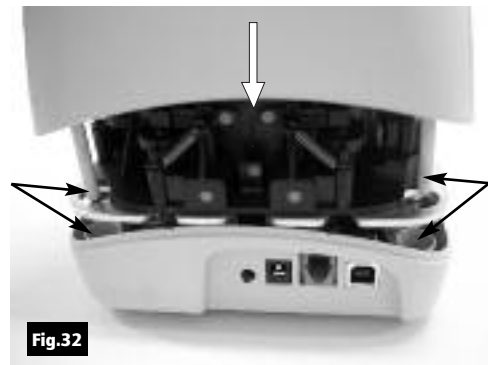
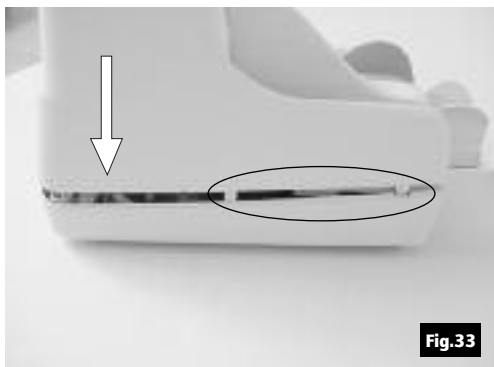

Fig.32
Fig.33
8. Insert the outer cover by aligning the two shafts with the holes in the bottom cover of the unit (Fig.32). Insert the two teeth located on each side of the outer cover in the bottom cover and lock it (Fig.33 and 34).